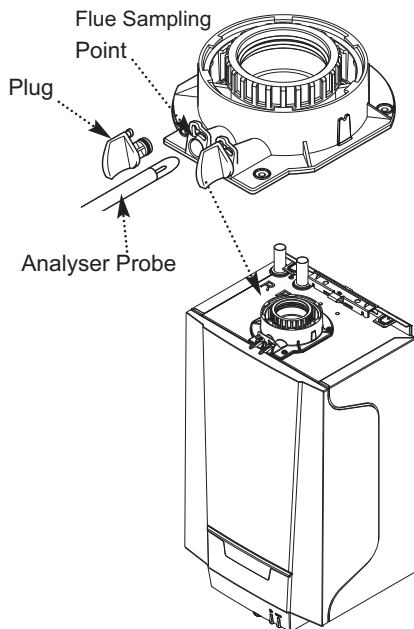

Fig. 35
5. Remove the plug from the flue sampling point (Fig. 35), insert the analyser probe and obtain the CO/CO₂ ratio. **This must be less than 0.004.** If the combustion reading (CO/CO₂ ratio) is greater than this, and the integrity of the complete flue system and combustion circuit seals has been verified, and the inlet gas pressure and gas rate are satisfactory either:-